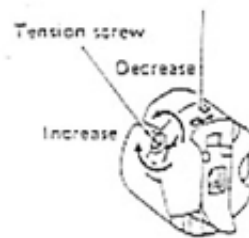

Figure 3.6
3.7 Lower Thread Tension (Figure 3.6)